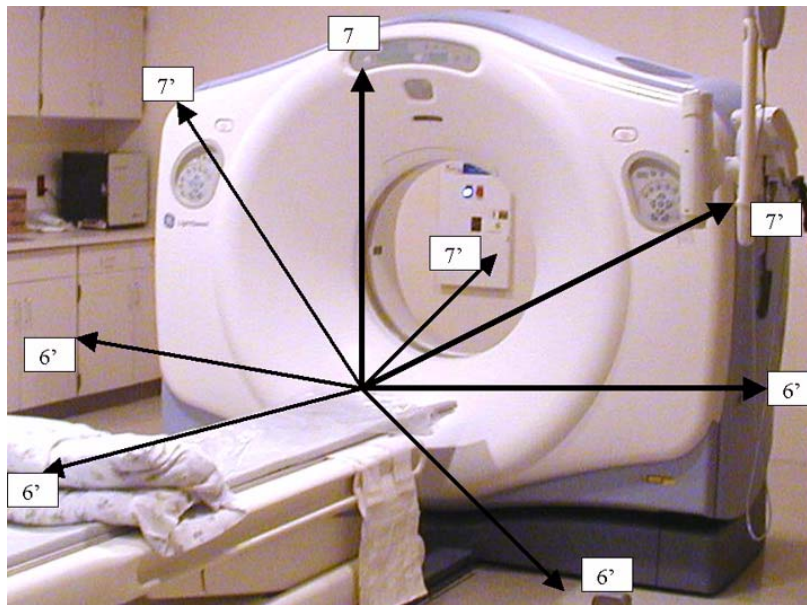

Figure 8-2 Measurement Points
- a.) Test between the system reference ground point (Table base) and the unit reference ground points (i.e. Gantry and Table, see Figure 8-2).
- b.) Test all conductive surfaces and components within patient reach - within 6 feet (1.9 m) of the Table, and within 7 feet (2.1 m) above the surface of the Table, measuring at Table maximum travels. Refer to Figure 8-2 for additional guidance.